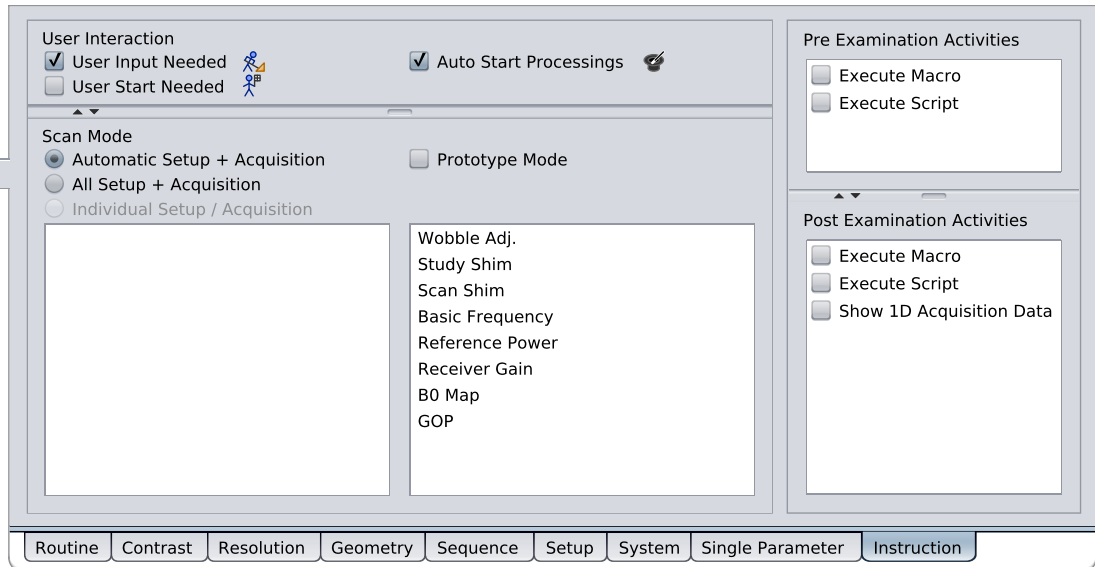

Figure 1.47: Instruction Card
- The Instruction tab (see [Figure 1.47 \[▶ 65\]](#)) is raised.